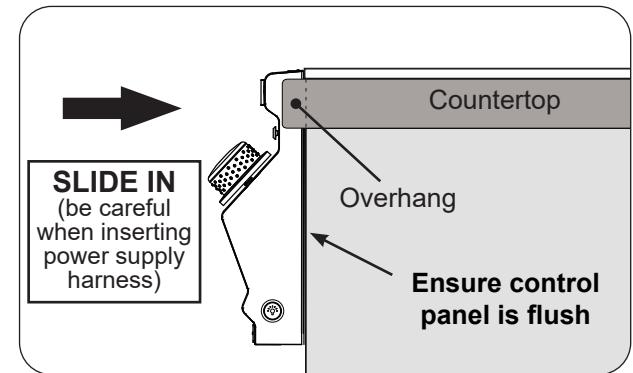

Fig. 29-2 Slide in unit (ensure flush)
- Ensure the unit fully slides in so that the control panel sits flush against the enclosure front wall. See Fig. 29-2 and see the COUNTERTOP OVERHANG section in ENCLOSURE REQUIREMENTS for details.